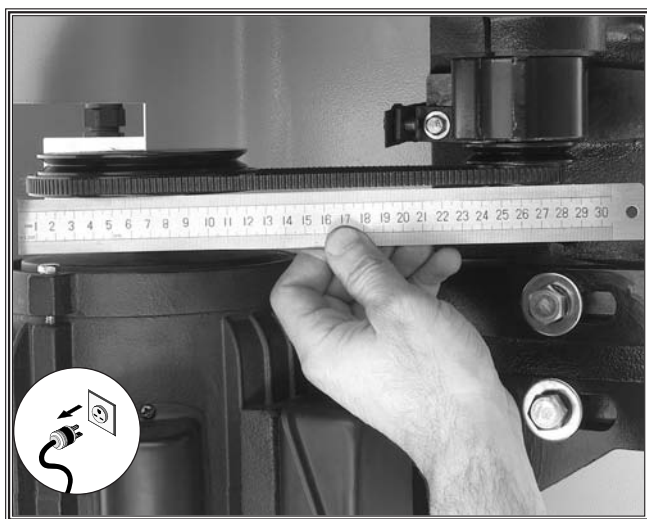

Figure 26. Use straightedge to check V-belts.
3. Hold a straightedge up to the pulleys to determine if they are aligned correctly as shown in **Figure 26**.